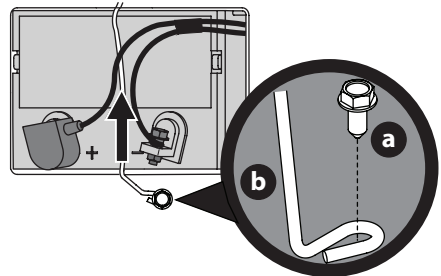

Figure 19
- Remove the hex washer screw (a) securing the battery hold-down bracket (b) to the frame. Then flip the battery hold-down bracket (b) up to free the battery (Figure 19).